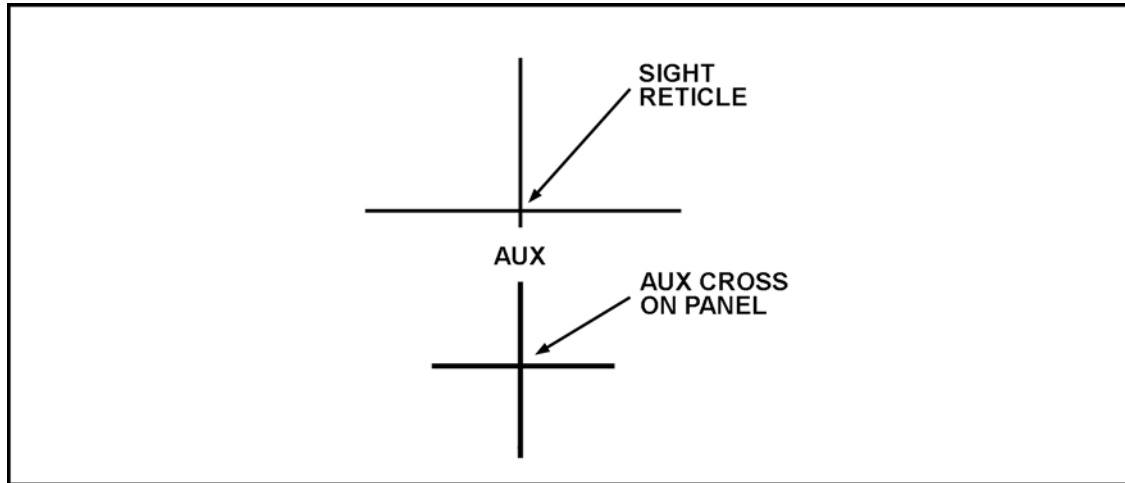

Figure B-54. Auxiliary sight reticle positioned above the AUX cross.
(3) Elevate the gun to align the auxiliary sight reticle with the AUX cross on the panel.
(5) Use the gun handwheel to elevate the gun until the bottom of the auxiliary sight reticle touches the top of the AUX cross on the panel (Figure B-54).